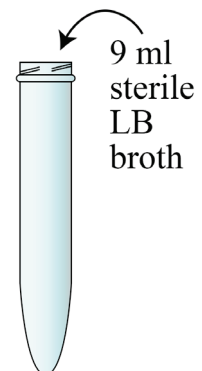

Fig. 8
7. To each of the above centrifuge tubes, aseptically[#] use a P5000 micropipette and sterile tips to add 9 ml sterile LB broth (Fig. 8).